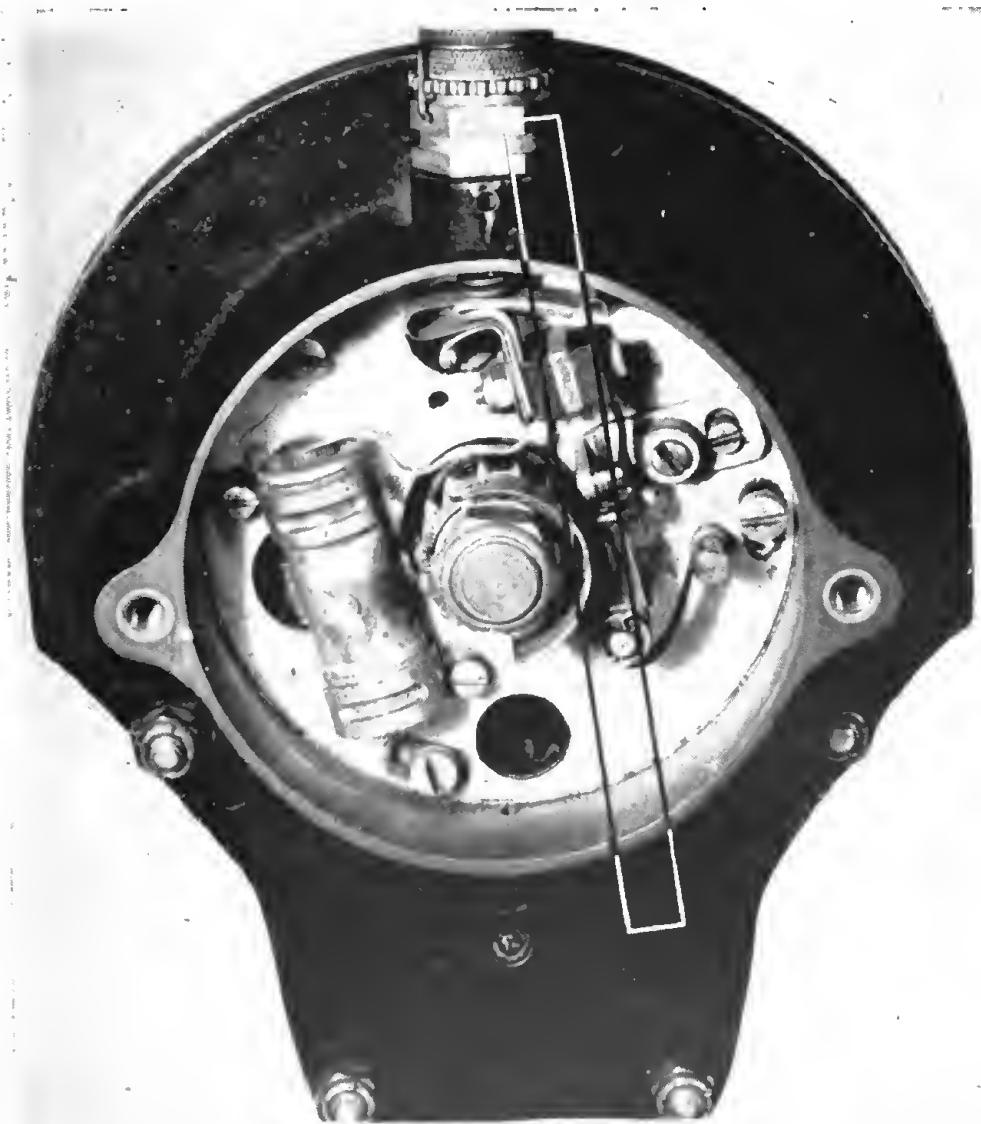

Figure 80. Use of a timing straight edge.
a. **TIMING STRAIGHT EDGE.** A timing straight edge is simply a thin piece of steel about 6 inches long, the edges of which are straight. It is used when timing a magneto. The rotor of the magneto is turned until the breaker points just separate. The straight edge is then used to check the alignment of two edges on the rotor with two marks on the housing. (See fig. 80.)